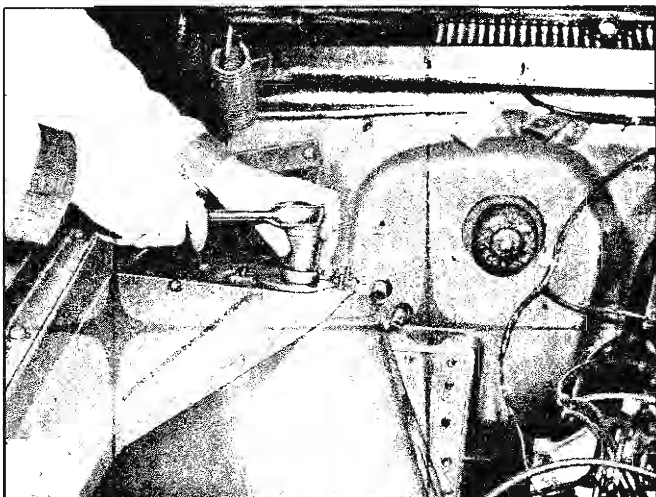

Fig. 24—Compressing Front Spring—Chevy II
5. Fit the tool upper pilot to top of spring and compress spring by tightening upper nut (fig. 24). Compress spring until screw is bottomed out.